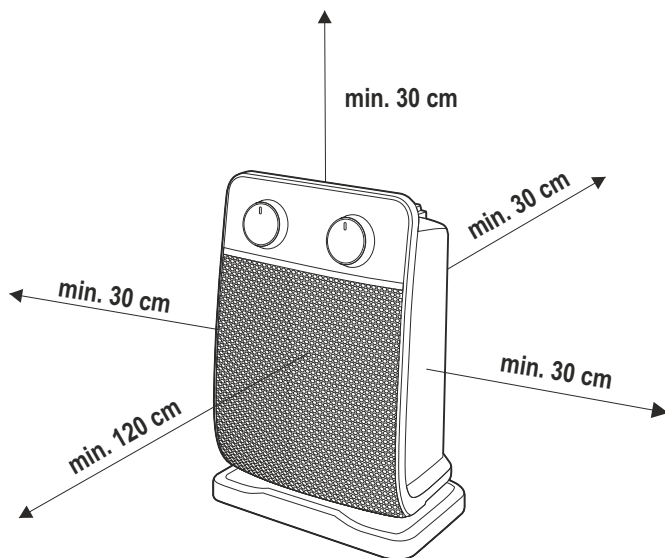

figure 2. • Abbildung 2 • 2. ábra • 2. obraz • figura 2. • 2. skica • 2. skica • 2. obrázek • rys. 2. • 2. slika
2. Never locate the unit directly in corners and observe the minimum mounting distances indicated in Figure 2. Always observe the health and safety regulations valid in the country of use.
3. Set the appliance on a stable and horizontal surface. The free flow of warm air must be ensured for proper operation, therefore, please note the minimum installation distances indicated in Figure 2.
4. Make sure, that the unit's mode selector (3) is in the OFF "0" position!